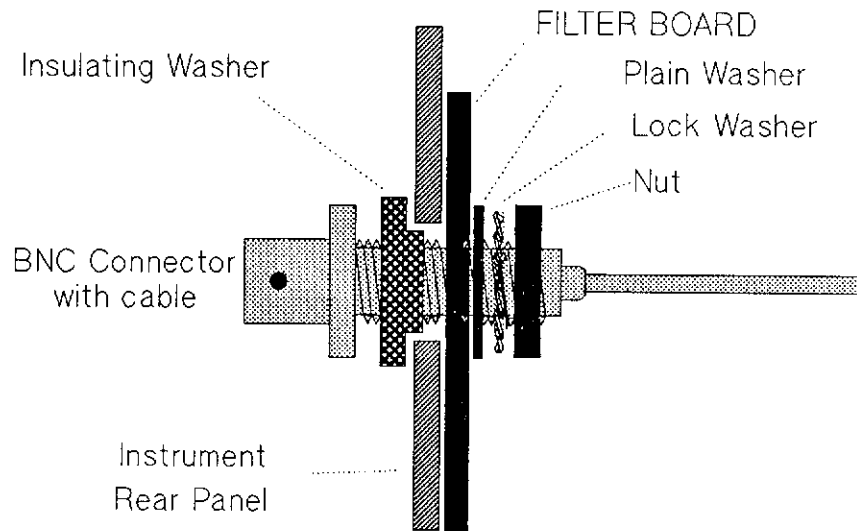

Figure 2-5. Installation of BNC Connector
3. Fit the BNC connector of the supplied cable to the rear panel in the aperture for 10MHz Oven Output, as shown in Fig 2.5.
5. Install the BNC end of the black/yellow sleeved cable into the PHASE CAL IN hole of the instrument rear panel. Refer to Fig 2.5.
7. Install the BNC end of the red/yellow sleeved cable into the PHASE CAL OUT hole of the instrument rear panel. Refer to Fig 2.5
8. Connect the SMB end of the red/yellow sleeved cable to the CAL OUT connector on the option board. Refer to Fig 2.5.